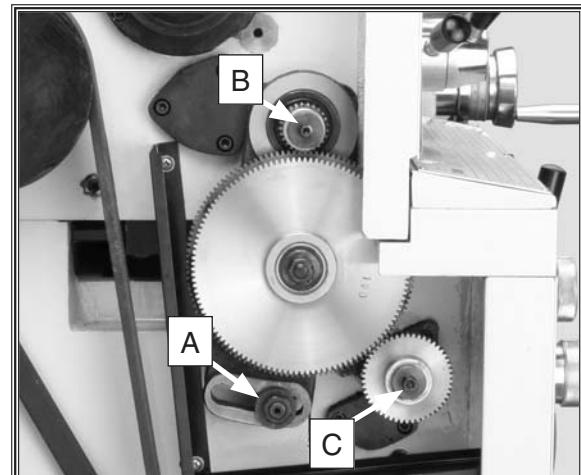

Figure 60. Gear change locations.
3. Loosen the hex nut on the pivot just below the large gear in **Figure 60**, Item A.
5. Remove the cap screw in **Figure 60**, Item B or C, depending on which gear is to be changed.
7. Loosen the hex nut in **Figure 60**, Item A, and move the gear set up until the larger gears mesh with the smaller gears. Tighten the nut to hold the large gear set in place. Make sure there is a gap of 0.001"-0.002" between gears.